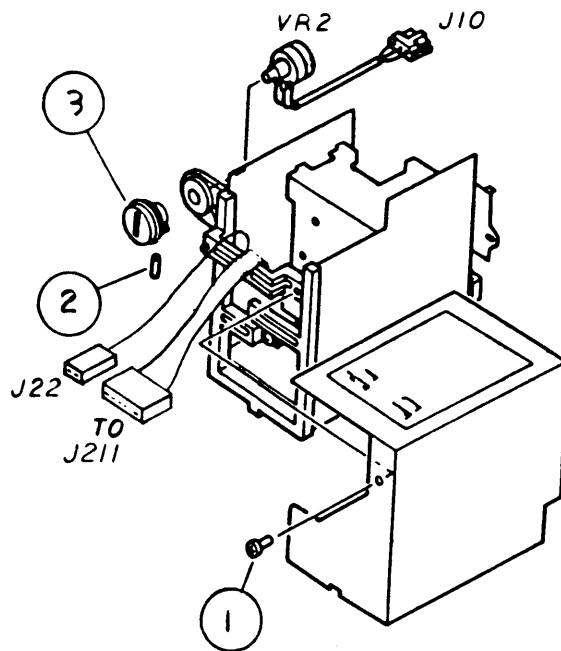

FIGURE 4
□ LASERWRITER – HIGH VOLTAGE POWER SUPPLY (Figure 4)